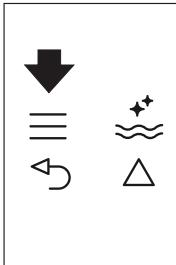
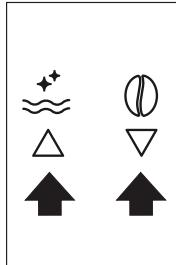

Fig. 22
Fig. 9
- ▶ Press the **≡** icon (B2) to enter the menu (Fig. 22) or press the icons **△** **▽** (B7) and (B8) (Fig. 9) until "PROGRAM HOT WATER" is displayed.